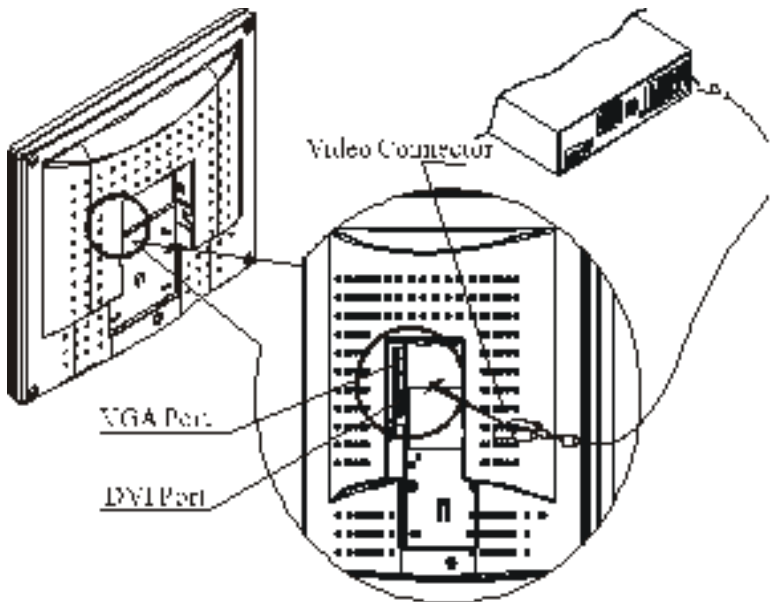

Figure 1-5
2. Connect one end of the signal cable to the monitor's VGA port or DVI port (digital models only). (See Fig. 1-5)